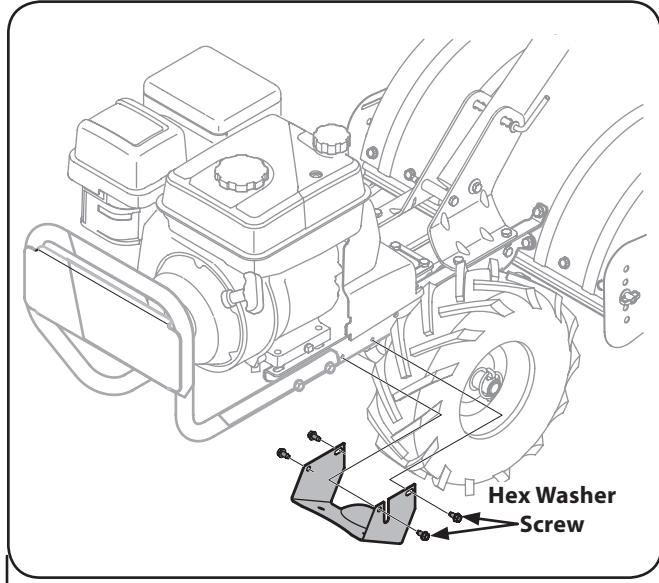

Figure 7-2
3. Remove the four $\frac{1}{4}$ -20 hex washer screws that secure the pulley shield to the frame as seen in Figure 7-2, and remove the pulley shield and set aside in a safe location until reinstallation.